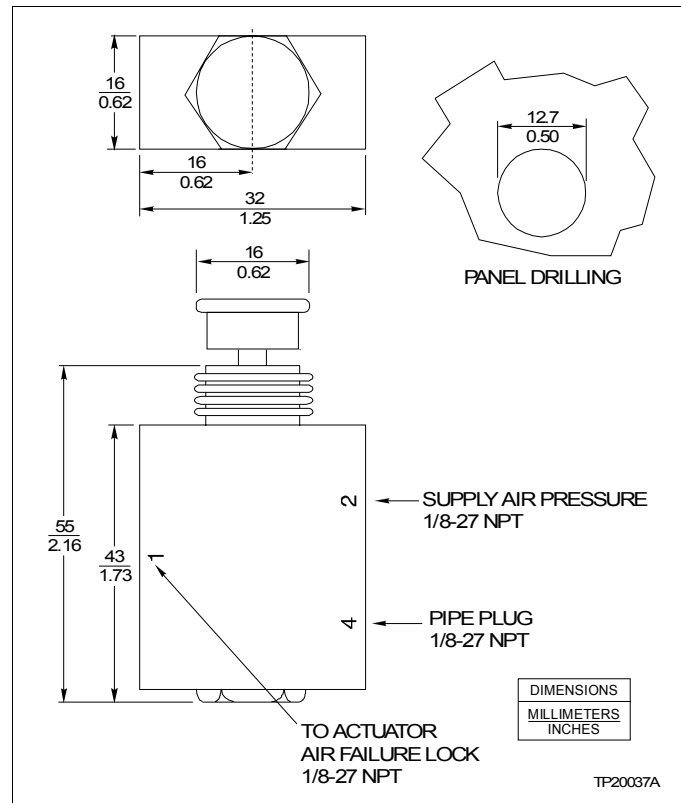

Figure 3-14. Reset Switch for Air Failure Lock (Part Number 19515895°1)
- **Remote Reset.** The air failure lock remains tripped until deliberately reset via a reset switch as supplied (shown in Fig. 3-14) or a normally closed solenoid valve (not supplied).
2. Install the reset switch in a suitable location. Refer to Figure 3-14 for the dimensions.